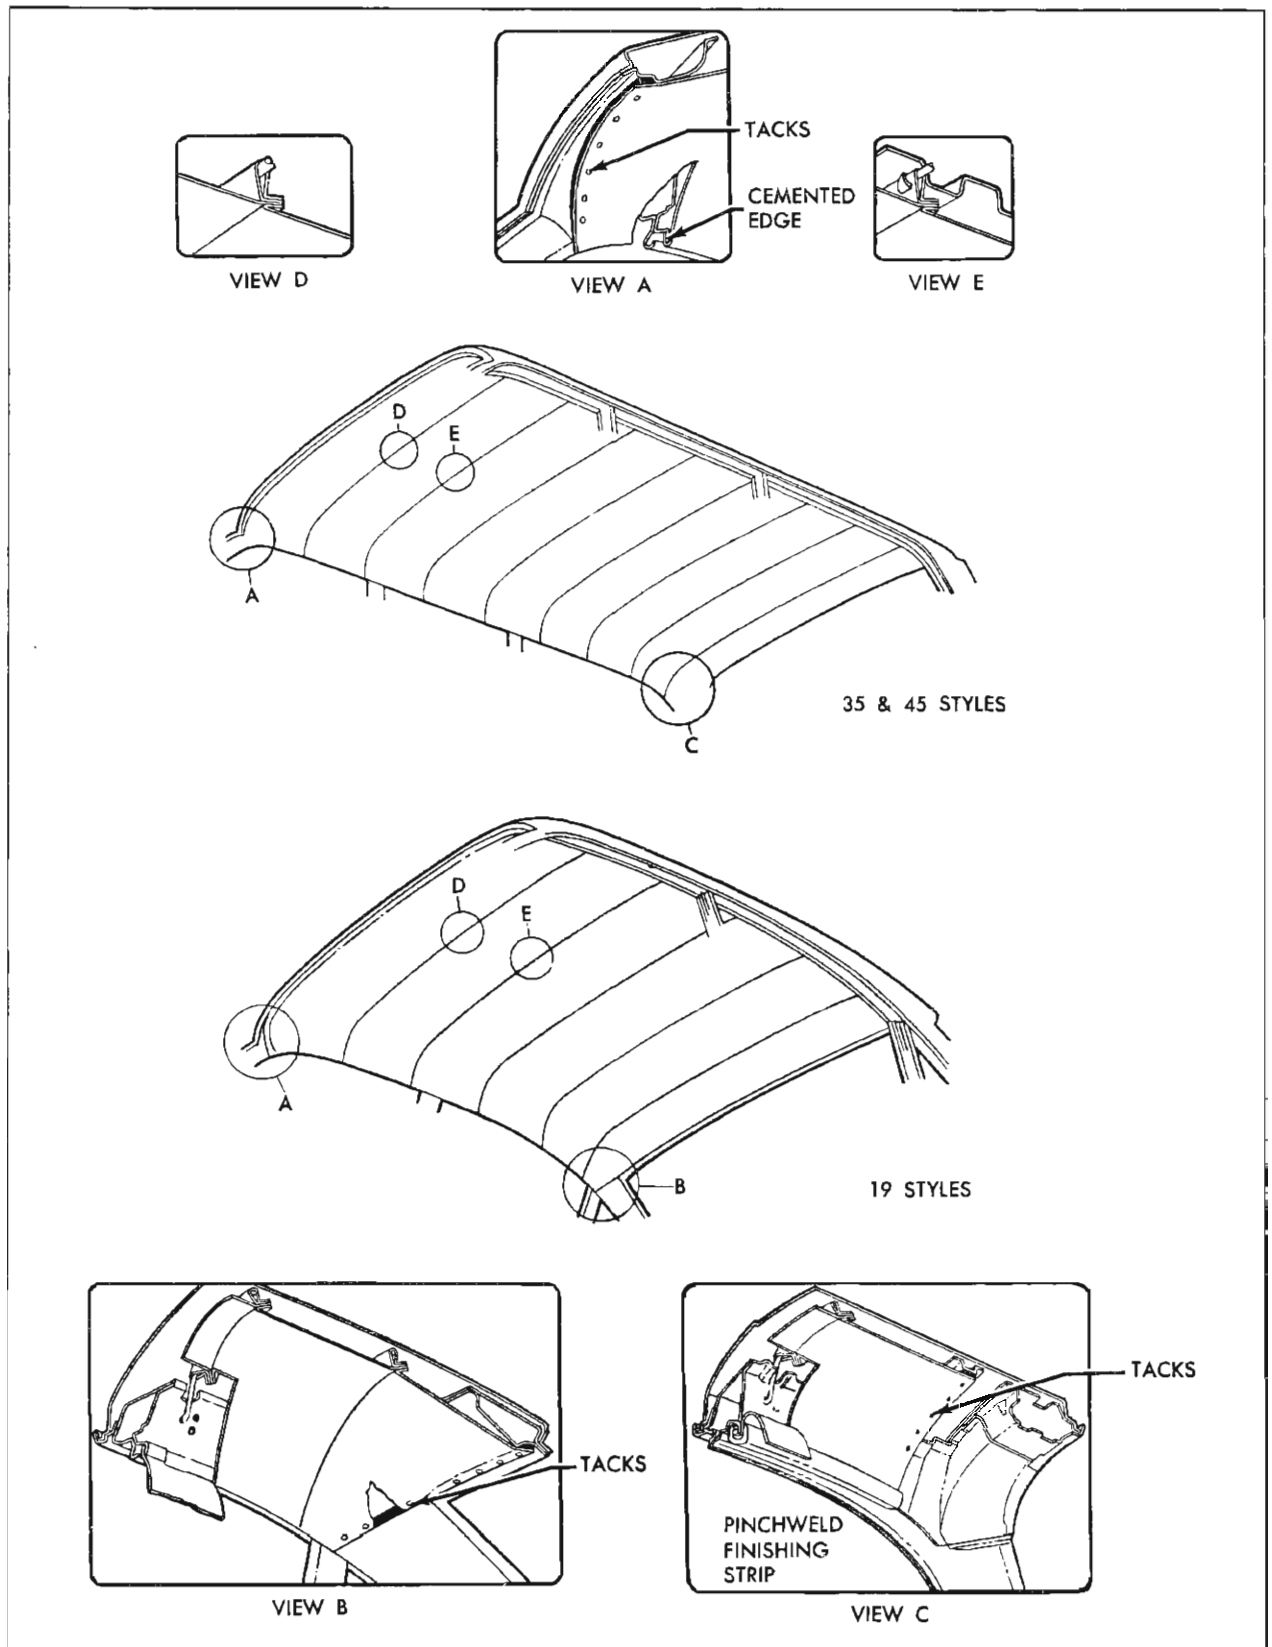
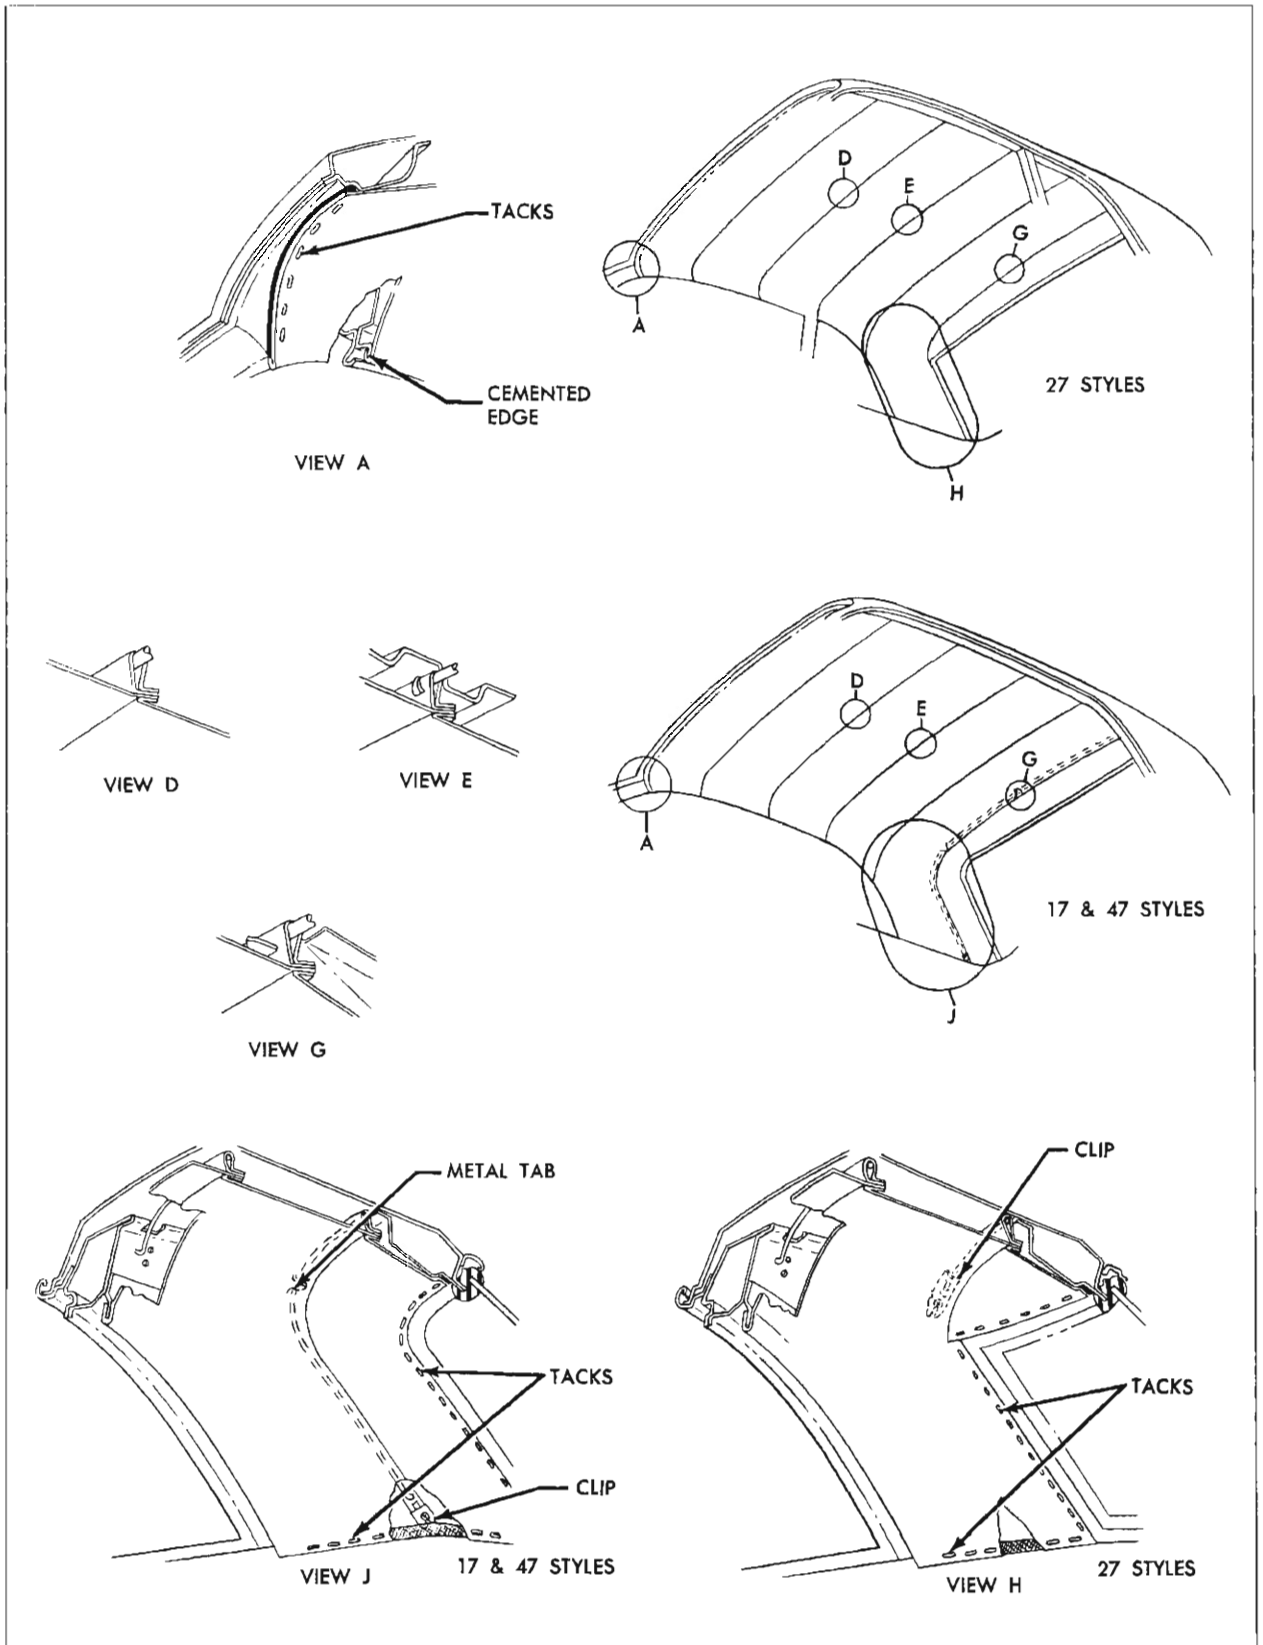

Fig. 16-1 Headlining Installation
Fig. 16-2 Headlining Installation
4. Carefully remove tacks or staples securing headlining at windshield opening (View A, Fig. 16-1 and Fig. 16-2).
5. Carefully remove tacks or staples securing headlining at back window or back body opening (Views J and H, Fig. 16-2 and Views B and C, Fig. 16-1). Then carefully detach cemented edges of headlining.
6. On 17, 27, and 47 styles, remove tacks or staples at quarter belt trim stick (Views J and H, Fig. 16-2).
8. At front roof bow, bend down metal tabs (View E, Fig. 16-1 and Fig. 16-2). On 27 styles, bend down metal tab supporting center of rear listing wire (View G, Fig. 16-2). On 17 and 47 styles, three metal tabs are used to support rear listing wire. (Views G and J, Fig. 16-2).
9. Disengage rear listing wire from clips in roof extension area on 17, 27, and 47 styles (Views J and H, Fig. 16-2).
3. Lift entire headlining assembly into body, then install rear listing wire. Make certain rear listing wire is properly inserted into clips at roof extension area on 17, 27, and 47 styles (View J and H, Fig. 16-2).
5. Install headlining listing wire over metal tabs on front roof bow. Bend up metal tabs so that listing wire is securely fastened to roof bow (View E, Fig. 16-1 and Fig. 16-2).
11. Using headlining inserting tool, permanently install edge of headlining around side roof rail pinch-weld (View A, Fig. 16-1 and Fig. 16-2).